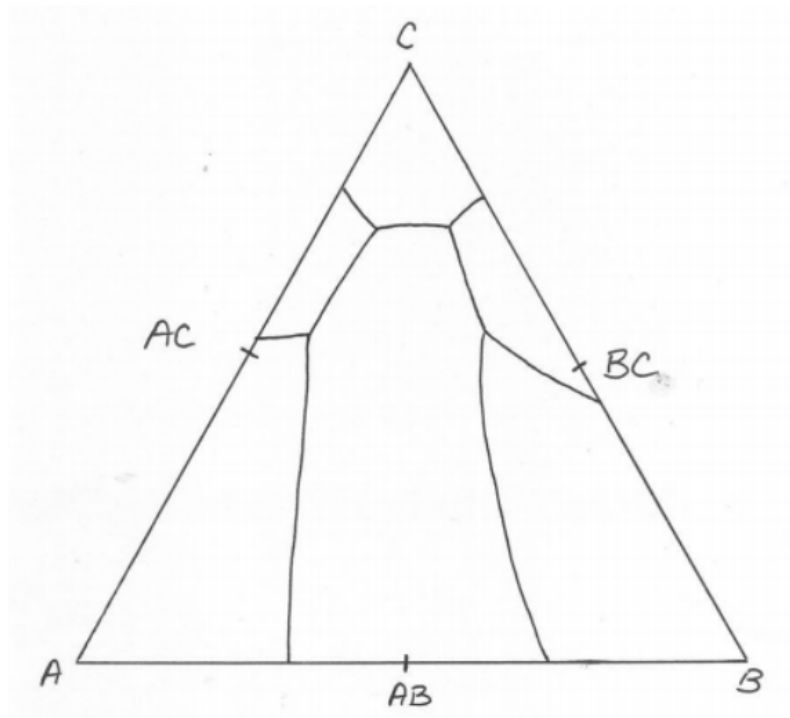

Figure 3.6: Liquidus projection diagram.
8) On the liquidus projection diagram for the hypothetical system A-B-C shown in Figure 3.6, complete the following: